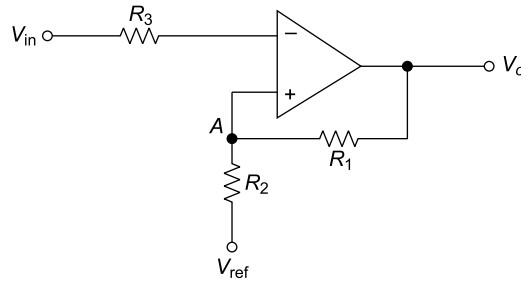

Fig. 5.79 Schmitt trigger circuit
5.28 Figure 5.79 shows a Schmitt trigger circuit where $R_1 = 50 \text{ k}\Omega$, $R_2 = 10 \text{ k}\Omega$, $V_{ref} = +5 \text{ V}$, saturation voltage $\pm 14 \text{ V}$, and $V_{in} = 12 \sin \omega t$.